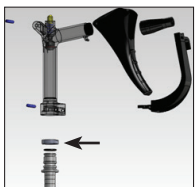

Figure 7
5. Remove the hose barb hose ring (Figure 7).